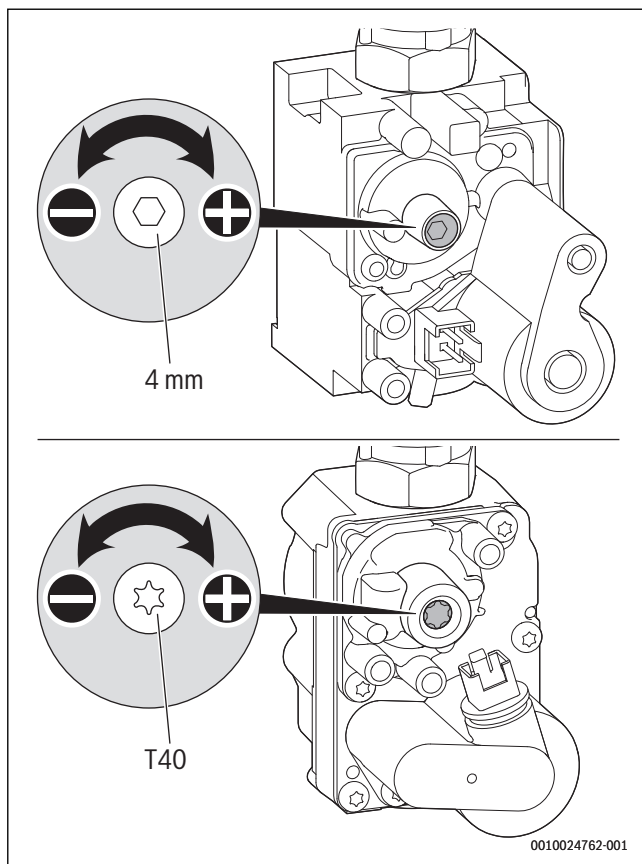

Fig. 97 Setting the CO2 or O2 content (above: SIT valve, below: Honeywell valve)
- ▶ Remove the seal from the adjusting screw of the air/gas ratio control valve (only air/gas ratio control valve is shown in the below Fig. 97) and set the CO2 or O2 content for minimum rated output.